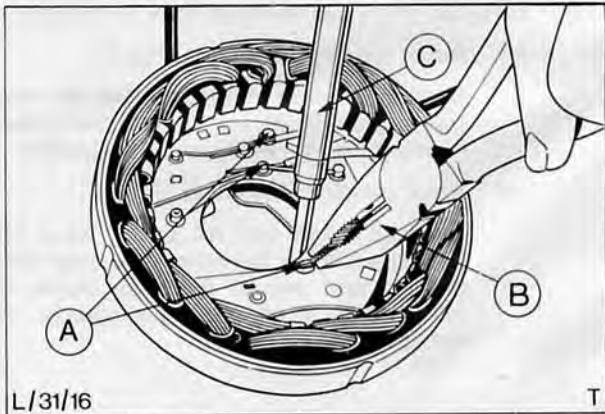

Fig. 25. Resoldering stator to diode pack connections
14. Resolder stator to diode pack connections, Fig. 25. using only a 60/40 electricians solder.